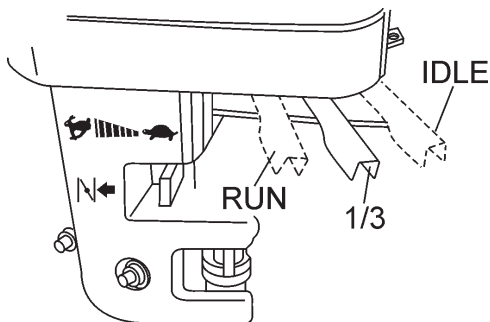

Figure 10. Throttle Lever (1/3 Start Position)
2. Move the **throttle lever** (Figure 10) away from the slow position, about 1/3 of the way toward the fast position.